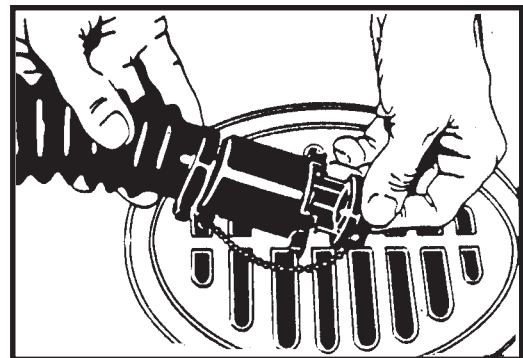

Figure 5
- d. Turn the valve handle to the left. Pull the handle out to open the drain. (Figure 5)